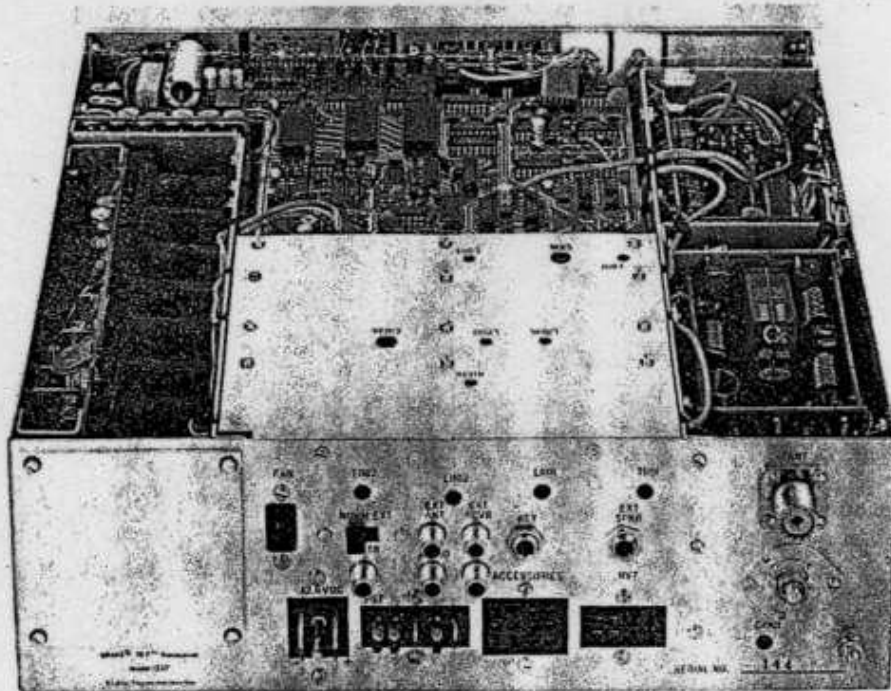

Figure 1—Top Cover (main card cage)
- 3) Refer to figure 1 and remove the top cover from the main card case by removing 14 screws. (12 on top and 2 on the rear.)